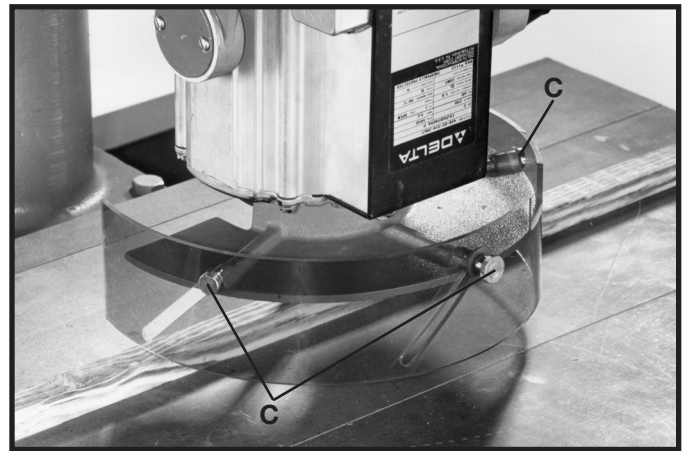

Fig. 61
5. When using the moulding cutterhead, the motor should be positioned as shown in Fig. 61. The height of the guard (A) Fig. 61, can be adjusted by loosening three screws (C).